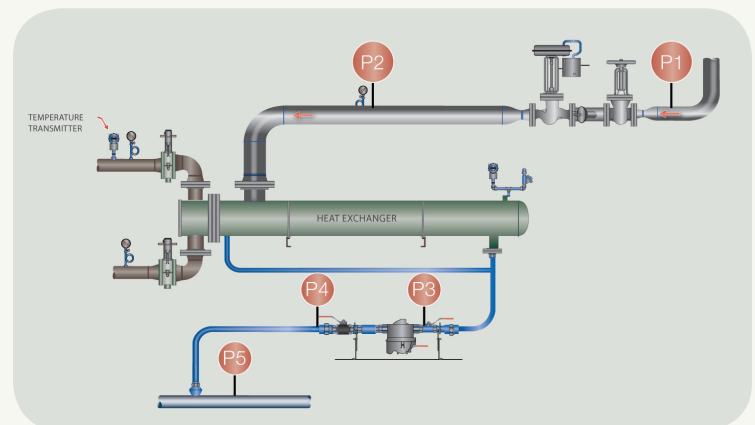

Figure 1
If the condensate/flash steam (two-phase flow) is being discharged from a modulating steam/condensate process, it means the process application has a steam control valve modulating the steam to the process and the control valve can operate from zero (closed) to 100 percent (fully open) and anywhere in between. (See Figure 1.) The steam pressure after the steam control and before the process heat exchanger can vary (P2 reading) depending on process conditions. The pressure at P2 can range from full line pressure delivered to the steam control valve (P1) all the way down to zero (0) pressure.